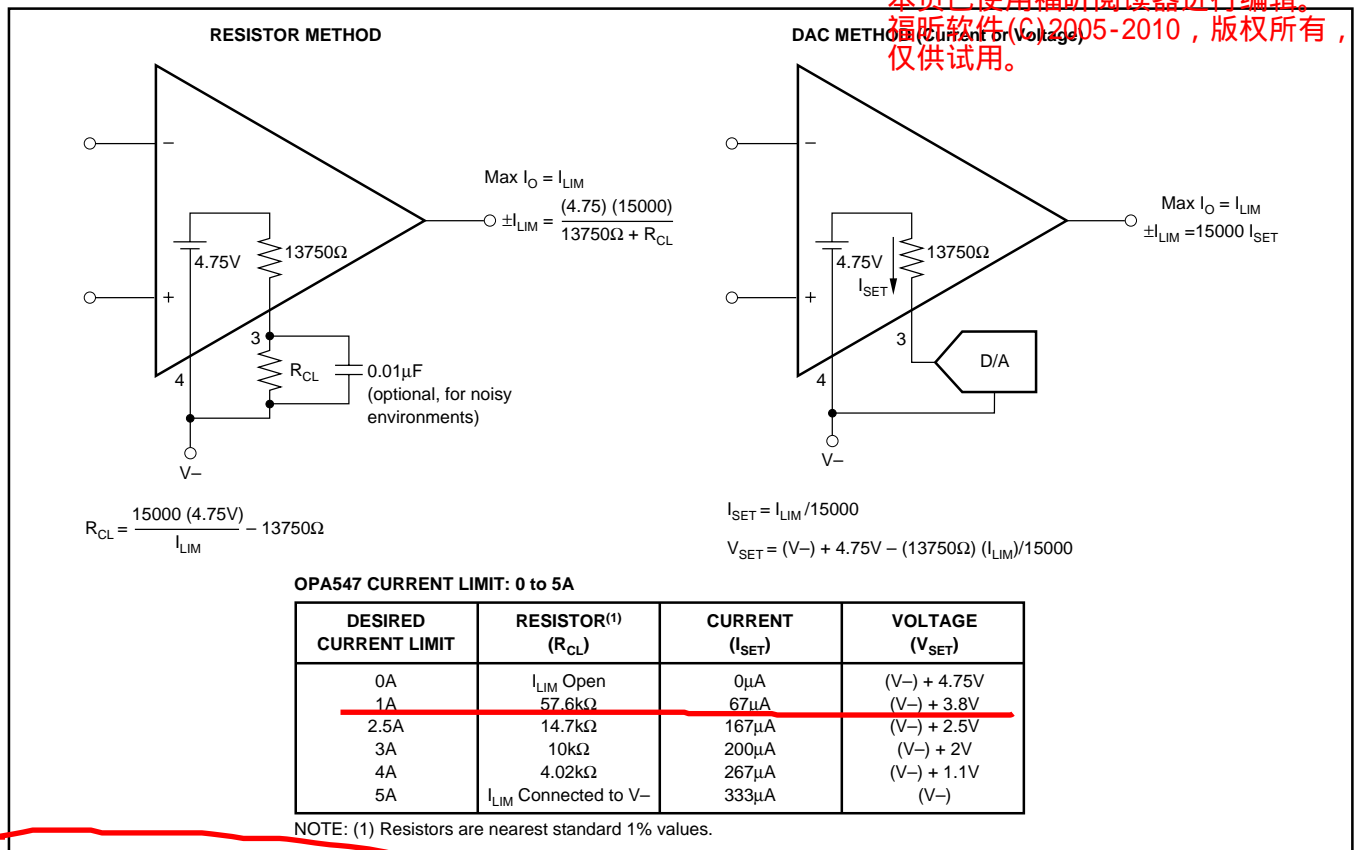

FIGURE 3. Adjustable Current Limit.
See Figure 3 for a simplified schematic of the internal circuitry used to set the current limit. Leaving the I_LIM pin open programs the output current to zero, while connecting I_LIM directly to V– programs the maximum output current limit, typically 5A.
NOTES: (1) Works well for $G < 10$. Input offset causes output current to flow between amplifiers with $G > 10$. Gains (resistor ratios) of the two amplifiers should be carefully matched to ensure equal current sharing. (2) As configured (I_{LIM} connected to V_-) output current limit is set to 10A (peak). Each amplifier is limited to 5A (peak). Other current limit values may be obtained, see Figure 3, "Adjustable Current Limit".